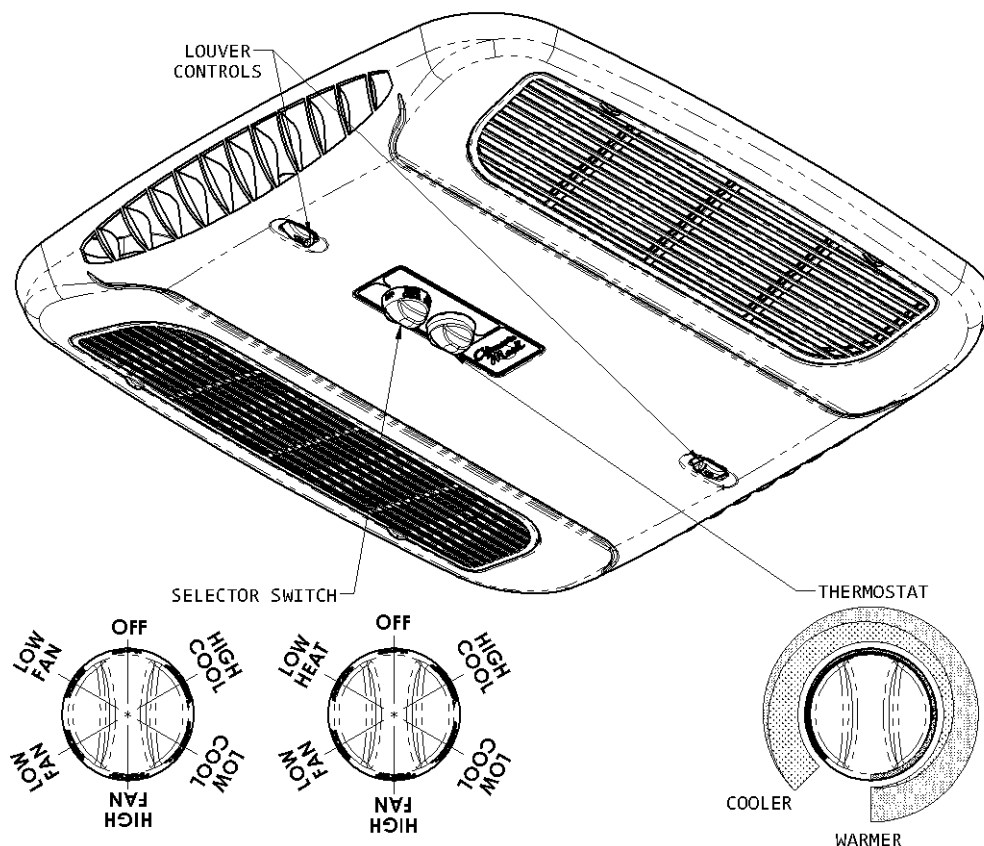

FIGURE 1
A. The Selector Switch – The selector switch determines which mode of operation the air conditioner will be in. By rotating the selector switch, the operator can obtain any system function desired. System functions vary depending upon options of both the roof top unit and ceiling assembly. Figure 1 shows selector switch location and lists all available functions by model.
For “Heat/Cool” models, the thermostat also controls the “ON” and “OFF” temperature settings of the heater assembly (See Figure 1).
I. For Cooling (Refer to Figure 1, page 3).
IV. For Heating (“Elect-A-Heat” Ceiling Assembly Model Only) Refer to Figure 1, page 3).
V. For Air Circulation Only (Refer to Figure 1, page 3).